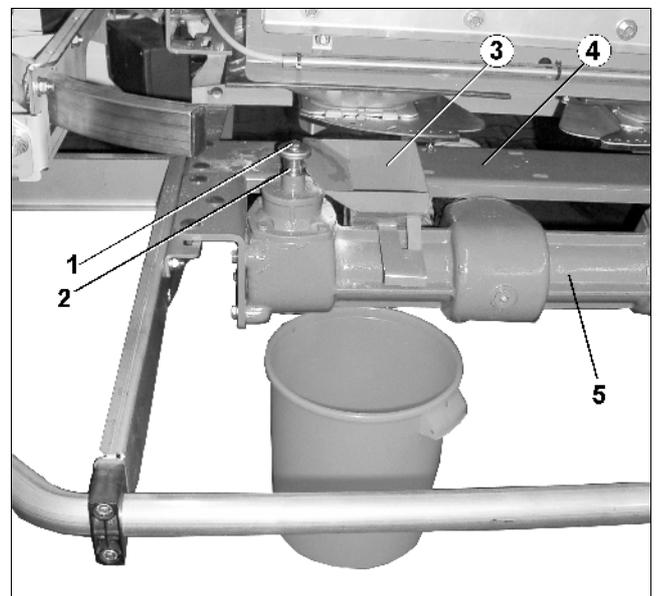

Fig. 28
- Unscrew the hexagonal bolt (Fig. 28/1) for fixing the left hand spreading disc and pull the spreading disc off the gear box shaft (Fig. 28/2).
- Put the calibration funnel (Fig. 28/3) between the bridge (Fig. 28/4) and distribution drive (Fig. 28/5) and push it until the gear box shaft.
- Locate the collecting bucket (Fig. 28/6) underneath the calibration funnel.